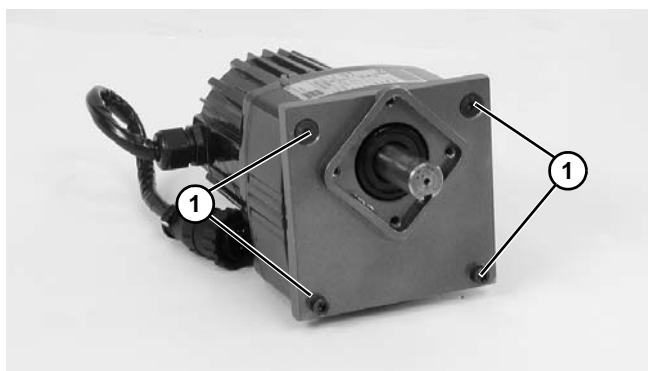

Figure 29
5. Remove four (4) adapter plate screws (**Figure 29, item 1**). Remove adapter plate.